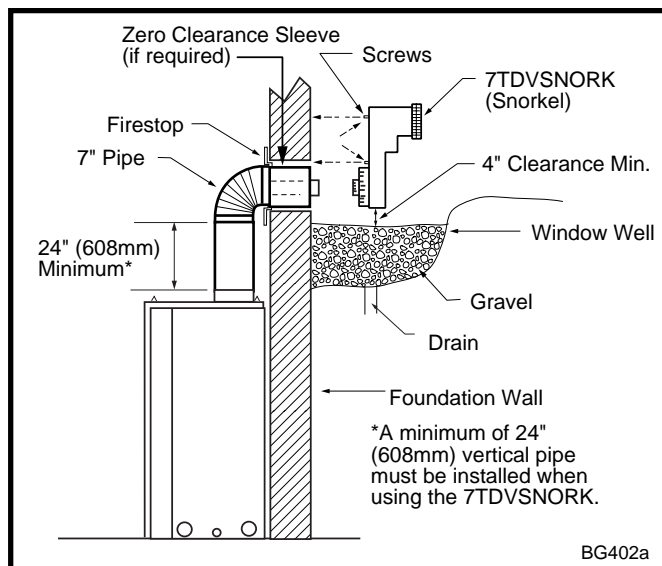

Fig. 37 Below grade installation.
2. Remove soil to a depth of approximately 16" (406mm) below base of snorkel. Install drain pipe. Install window well (not supplied). Refill hole with 12" (305mm) of coarse gravel leaving a clearance of approximately 4" (102mm) below snorkel. (Fig. 37)
7. Level the soil so as to maintain a 4" (102mm) clearance below snorkel. (Fig. 37)